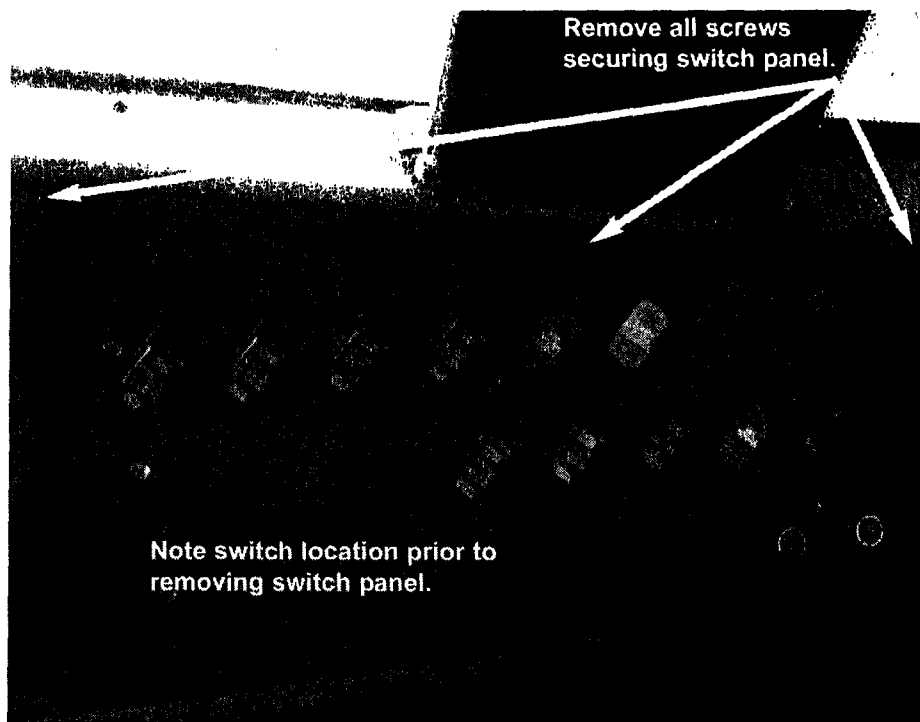

Figure 1
1. **Make note of the location of the switches before disassembling the Switch Panel. Fig. 1**